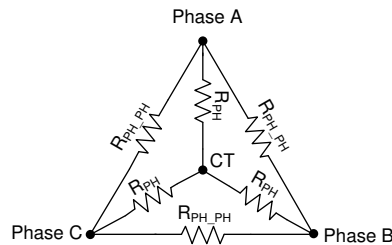

Figure 2-2. Motor Resistance
Step 4: If the motor does not have a data sheet, then measure the phase to phase resistance across any two phases using a Digital Multimeter and calculate the phase resistance by dividing the phase to phase resistance by 2 as shown in Equation 2. The motor phase resistance refers to the equivalent phase to center tap resistance, R_{PH} as shown in Figure 2-2. This measurement holds good for both star wound and delta wound motors.